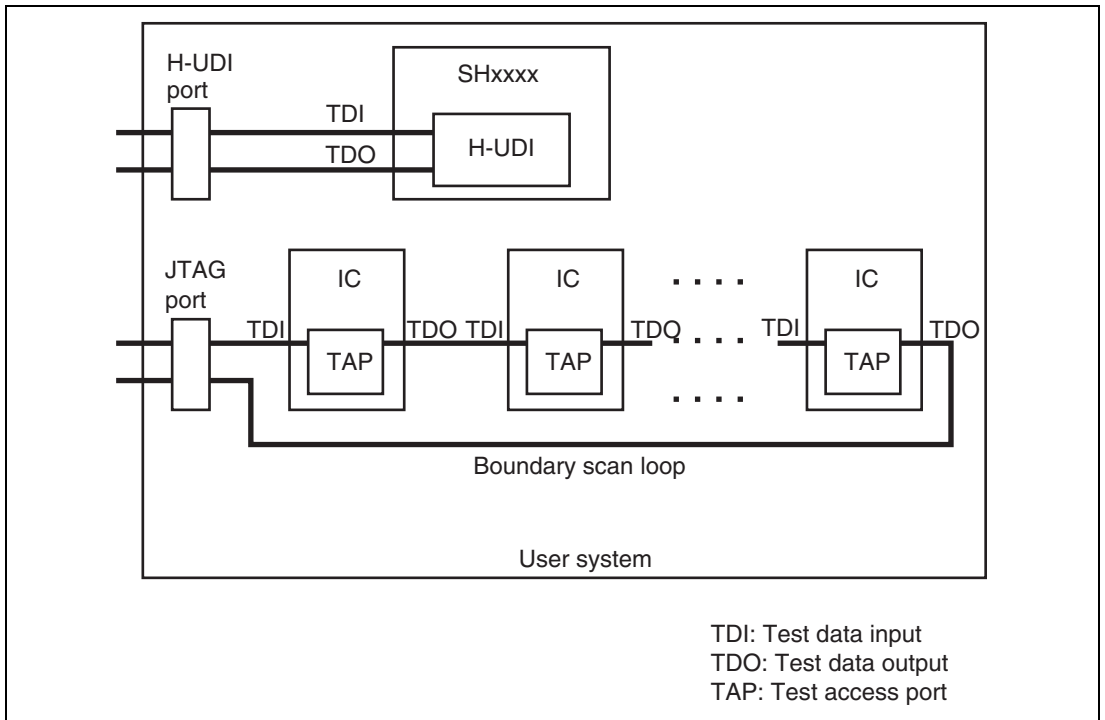

Figure 2.29 User System Example
4. When developing user systems, do not connect the TDI and TDO signals of the device to the boundary scan loop, or separate them by using a switch (figure 2.29).